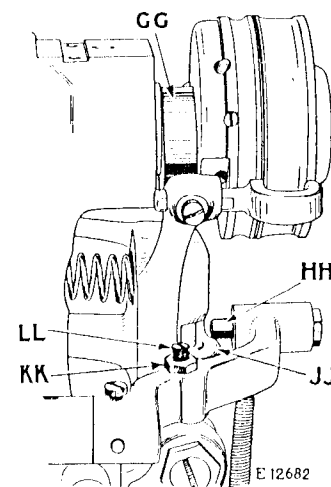

Fig. 24. Adjustments for Timing Upper Thread Trimmer
The upper thread trimmer should be timed to cut the thread immediately after the buttonhole has been cut. In case the upper thread trimmer is not in correct time, turn the driving pulley of the machine until the stop cam interlocking rod rides on the highest point of the stop cam (GG, Fig. 24). When in this position, the lock pin (HH, Fig. 24) 40052 should be  $\frac{1}{16}$  inch above the stop cam interlocking rod guide (JJ, Fig. 24) 23514 as shown in Fig.
24. If it is not, loosen the lock nut (KK, Fig. 24) in the tension releaser lever and turn the adjusting screw (LL, Fig. 24) in or out, as may be required, then securely tighten the lock nut (KK).